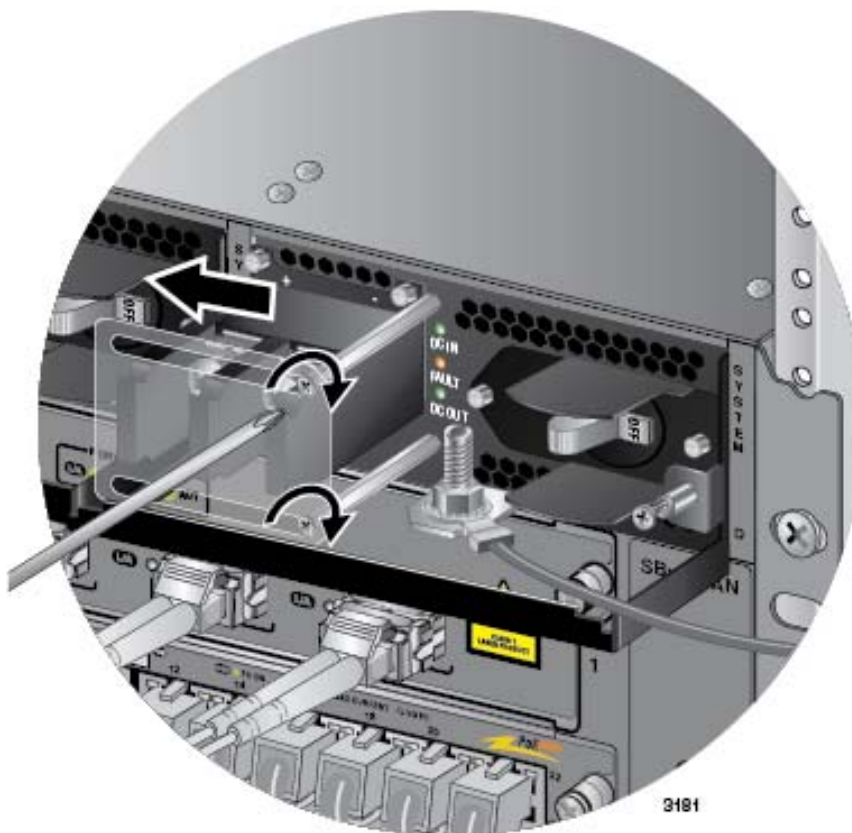

Figure 164. Closing the Plastic Cover
8. Slide the plastic cover to the left and lightly tighten the two screws to secure it in place. Refer to Figure 164 on page 266.